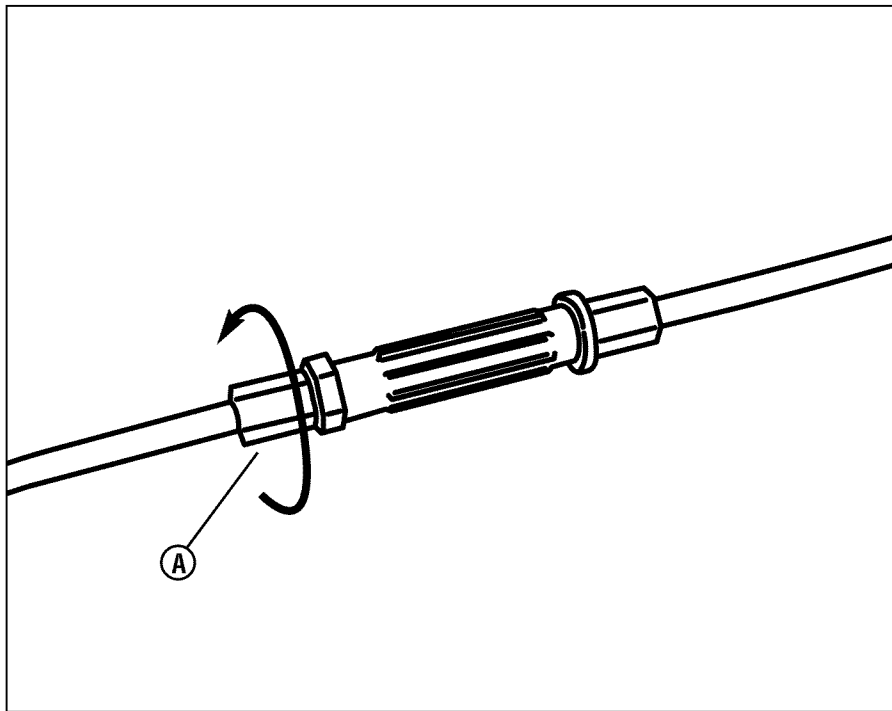

Figure 23: Adjusting the drive cable
1. If the drive system is slipping, turn the cable adjuster **(A, Figure 23)** in the direction shown. Test the drive system and check for slippage.